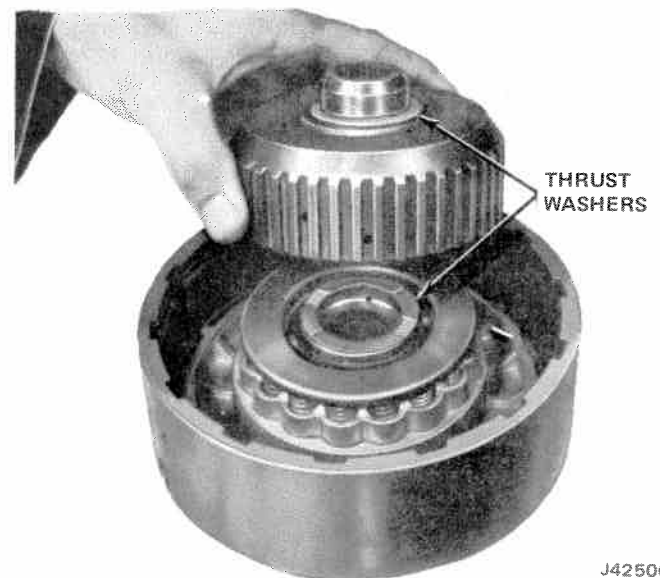

Fig. 7-70 Installing Thrust Washers On Forward Clutch Hub
(6) Use Clutch Spring Compressor W-306 and arbor press to compress springs; then fasten spring retainer to piston with snap ring.
(7) If removed, press short-spline end of turbine shaft into forward clutch housing, using arbor press.
(8) Place thrust washers on forward clutch hub. Retain with petroleum jelly or equivalent.
(9) Install hub and washers in clutch housing, as shown in fig. 7-70.